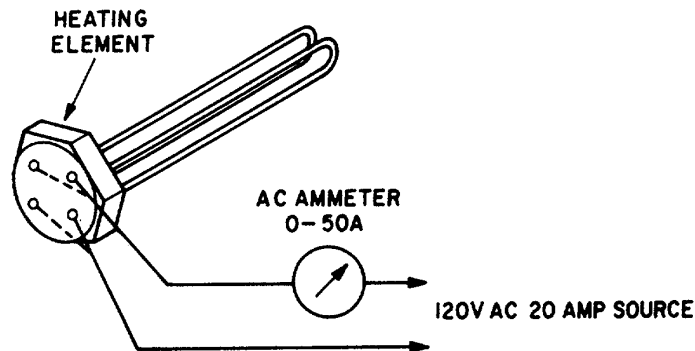

Figure 8-3. Heater Element Test Set-up
- a. **Replacement.** Remove cover (4) to gain access to heating element terminations. Tag and disconnect wires. Unscrew heating element (6) from EB tank (23). When installing new element add sealing compound MIL-5-15204C to pipe threads.
- b. **Test.** Heating element is actually comprised of two separate 120V, 2200 watt elements. Utilizing a 120V AC 20 AMP power source, energize each element in turn to verify that each element current draw is approximately 18.5 AMPS. See figure 8-3. If any element does not have proper current draw, replace entire element.